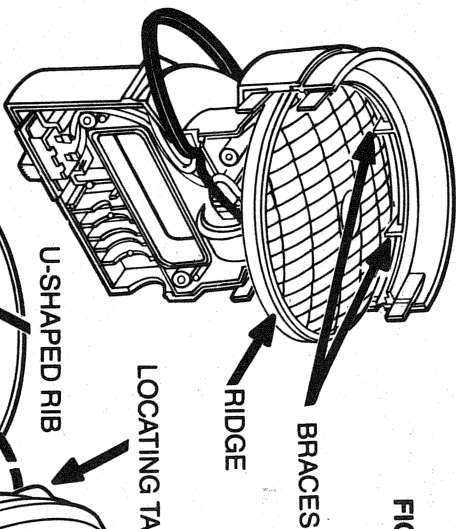

FIG. 5
8. Replace the glass lens and make sure that it fits behind the braces, as shown in Figure 5.